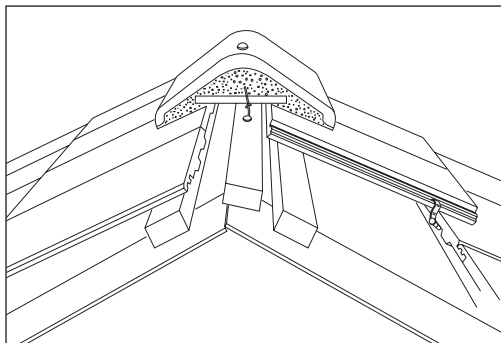

Fig 92 – Security ridge
- Wire a security ridge tile to a nail driven into a ridge board or supplementary batten (Fig 92).